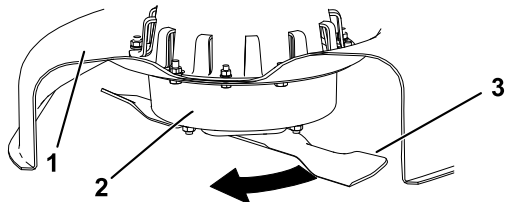

Figure 29
2. While wearing thickly padded gloves, or other adequate hand protection, slowly rotate the blade into a position that allows you to measure the distance between the cutting edge and the level surface the machine is on (Figure 29).